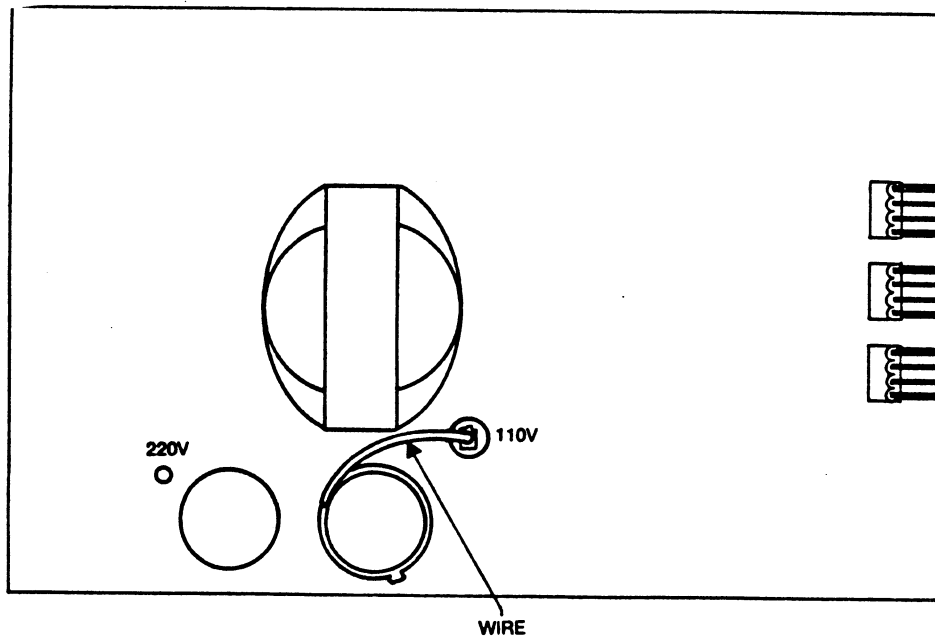

Figure 3-4. Line Power Voltage Pins
3. Refer to Figure 3-4 to locate the Line Power Voltage Pins. To select 180-264V operation, connect the wire to the pin marked 220V. For 90-132V operation, place the wire on the pin labeled 110V.